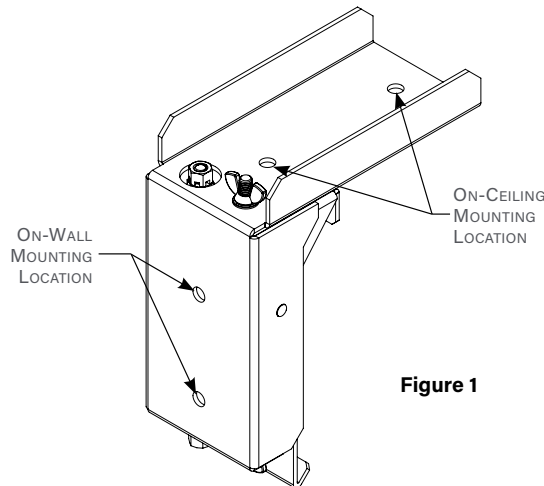

Figure 1
- a. On wall: screw into wall from back (Figure 1)
- b. On ceiling: screw into ceiling from top (Figure 1)